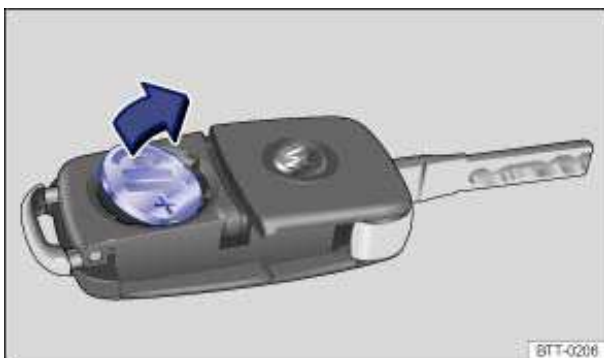

Fig. 29 Remote control vehicle key: Remove old battery.
- Use a thin object to pry the battery out of the battery compartment ⇒ fig. 29.